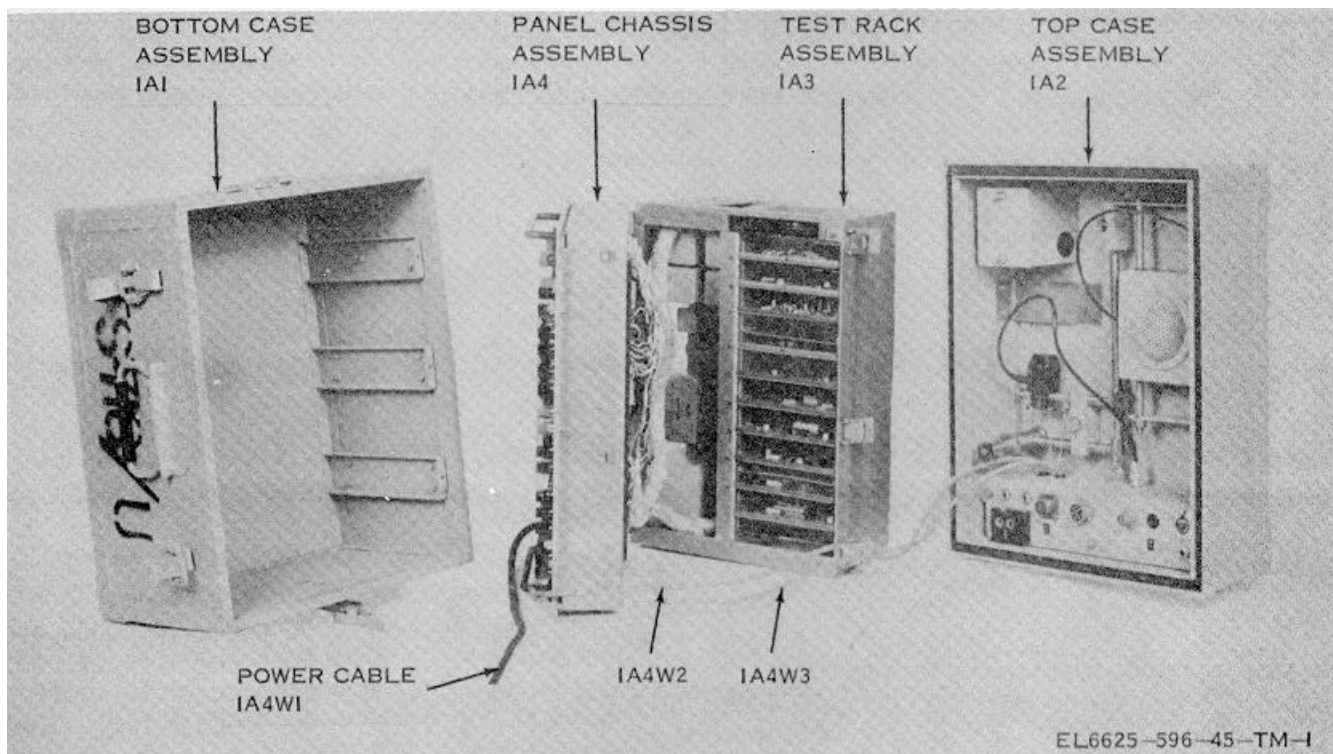

Figure 1-1. Telephone Test Set TS-716/U.
a. This manual contains general support (GS) and depot maintenance instructions for Telephone Test Set TS-716/U (test set) (FIG. 1-1). It includes instructions appropriate to GS and depot for troubleshooting, testing, aligning, and repairing the equipment. It also lists tools, materials, and test equipment required and contains a repair parts list (app B).
a. Telephone Test Set TS-716/U (FIG. 1-1) is designed to perform eight different types of tests on all types of transducers and telephone communications equipment. To perform such a wide variety of functions, the test set consists of a number of separate circuits and assemblies which are selected and interconnected by pushbutton and rotary switches.
(1) By applying a known input signal, either electrical or acoustical, to the equipment under test, and measuring either the electrical or acoustical output of the equipment under test.
(2) By applying an input to the equipment under test which simulates its normal operating condition.
(3) By measuring the output of the equipment under test.
(4) By comparing the equipment under test to a standard circuit in the test set.